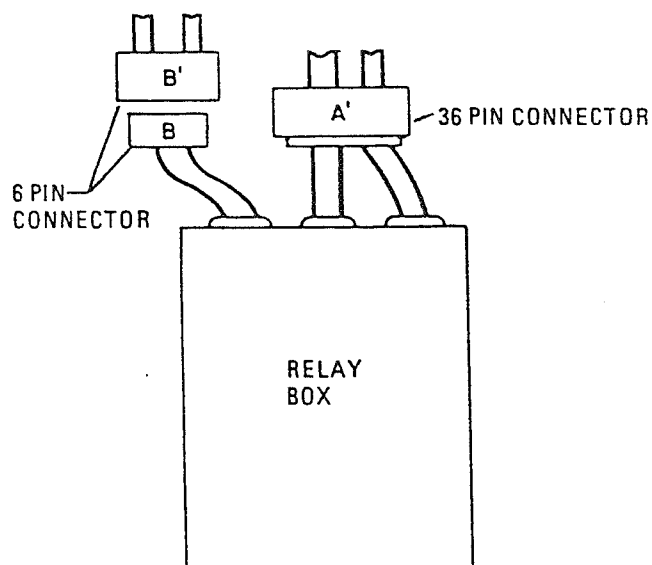

Figure 5-3. Models 5000 and 5001
2. Disconnect B and B'. See figures 5-3. and 5-4. Leave all other connectors connected.